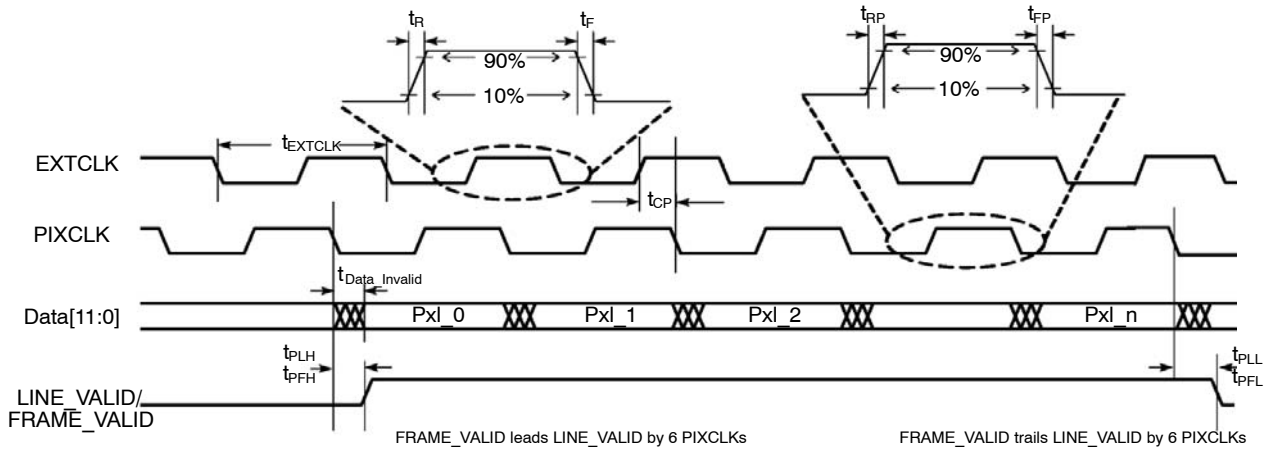

Figure 14. I/O Timing Diagram
See Figure 14 below and Tables 6–7 on pages 17–18 for I/O timing (AC) characteristics.